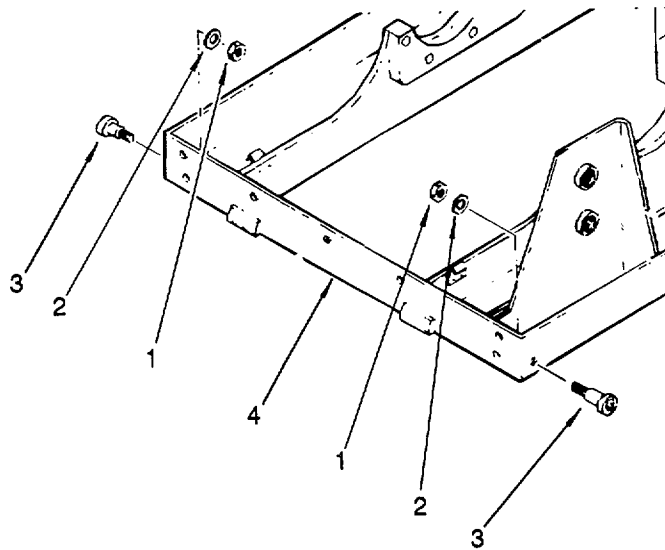

Figure 4-14. Alignment Bolt Replacement
4.13.3 Replace Engine Module Alignment Bolts. (Refer to figure 4-14.)